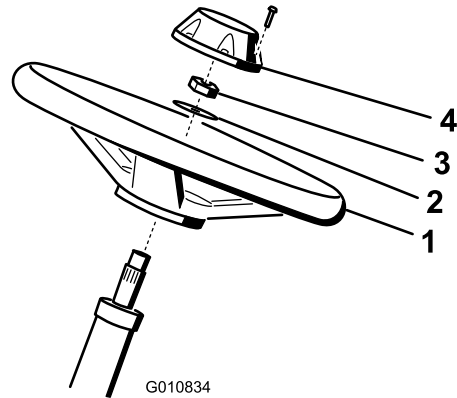

Figure 6
1. Slide the steering wheel onto the steering shaft (Figure 6).
2. Slide the washer onto the steering shaft (Figure 6).
3. Secure the steering wheel to the shaft with a locknut and tighten it to 27 to 35 N·m (20 to 26 ft-lb) (Figure 6).
4. Install the cap to the steering wheel and secure it with 6 bolts (Figure 6).